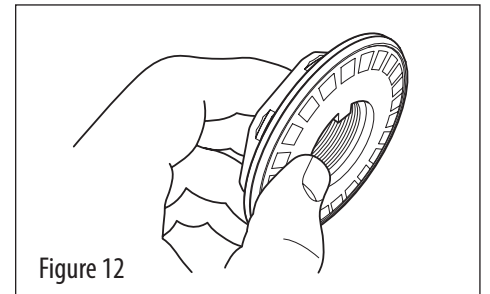

Figure 12
1. Seat the flat washer into the back of the spindle nut (see Figure 12).